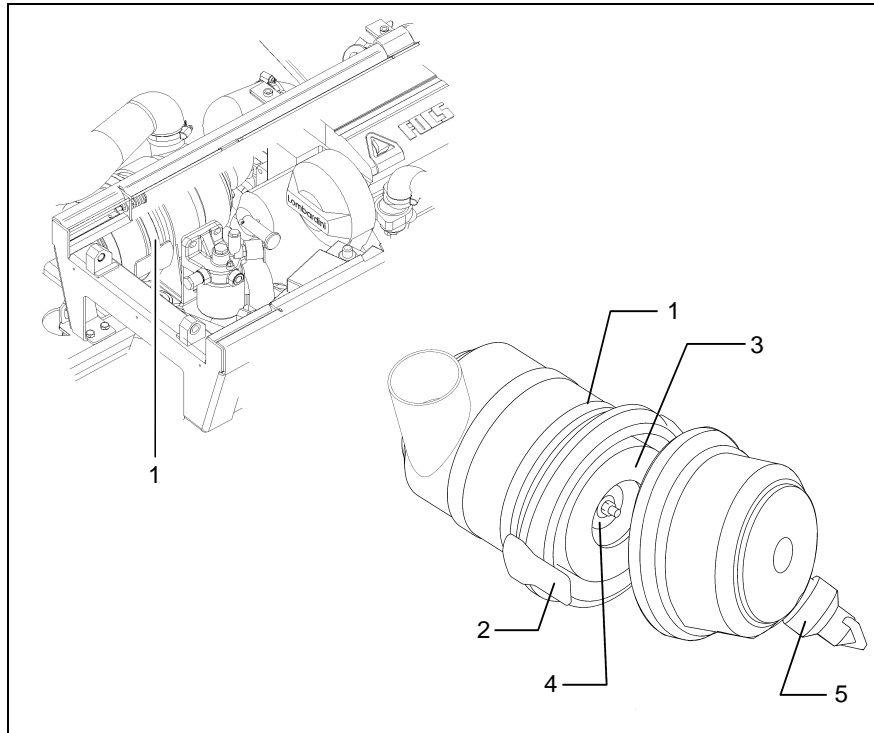

Fig.15
The air filter (Fig. 15/1) is in the engine compartment. The accumulation of dirt in the main filter must be checked every 250 operating hours and cleaned as necessary.
2. Release the brackets (Fig. 15/2) on the air filter (Fig. 15/1) and remove the lower housing.
3. Remove the main filter (Fig. 15/3) from the housing.
2. Replace the lower housing ensuring the dust discharge valve (Fig. 15/5) is fitted correctly.
The main filter (Fig. 15/3) must be replaced in the case of damage or every 500 operating hours at the latest.
The safety cartridge (Fig. 15/4) must not be cleaned nor reused after being disassembled!
Press the dust discharge valve (Fig. 15/5) together thus removing the accumulation of dust.